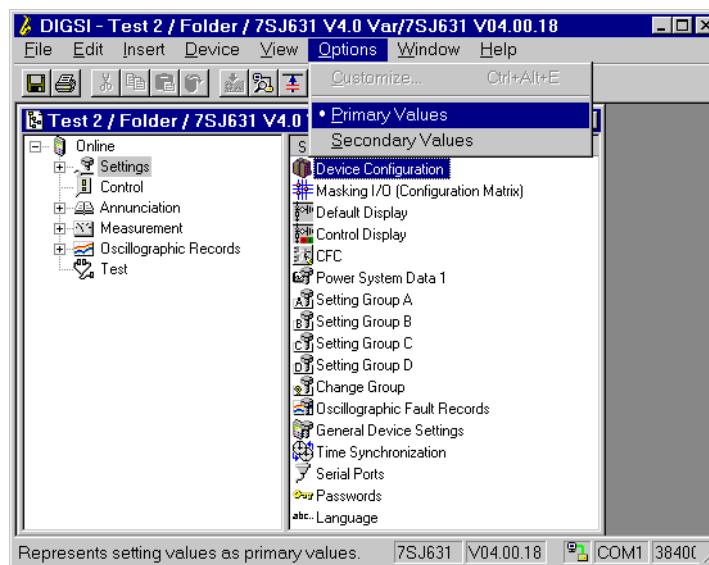

Figure 6-7 Selection of primary or secondary value entry — example
- Click on **Options** in the menu bar, as shown in Figure 6-7.